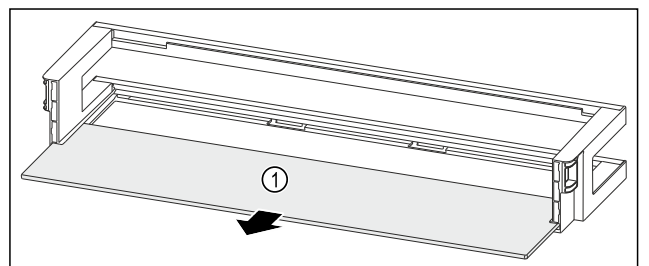

Fig. 151 Door rack with shelf
- ▶ Remove the shelf Fig. 151 (1).